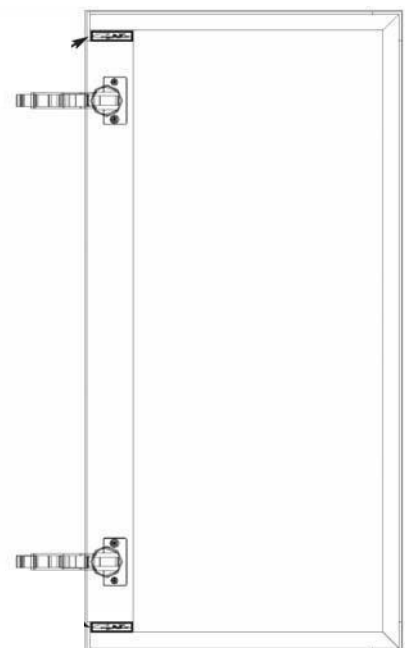

Fig 26
1. After door and cabinet are installed, install name plates by peeling protective plastic from door and back of nameplate, then placing nameplate in proper location (Fig 26)